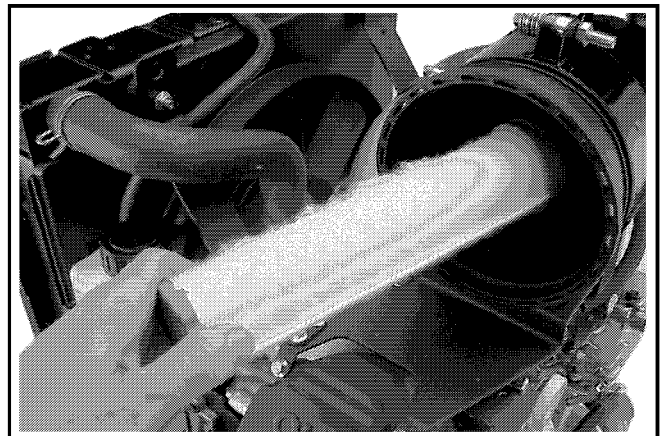

Figure 16. Removing Inner Element.
3. After the main element is removed, check the condition of the inner element. It should be replaced whenever it appears dirty, typically every other time the main element is replaced. Clean the area around the base of the inner element before removing it, so dirt does not get into the engine. See Figure 16.